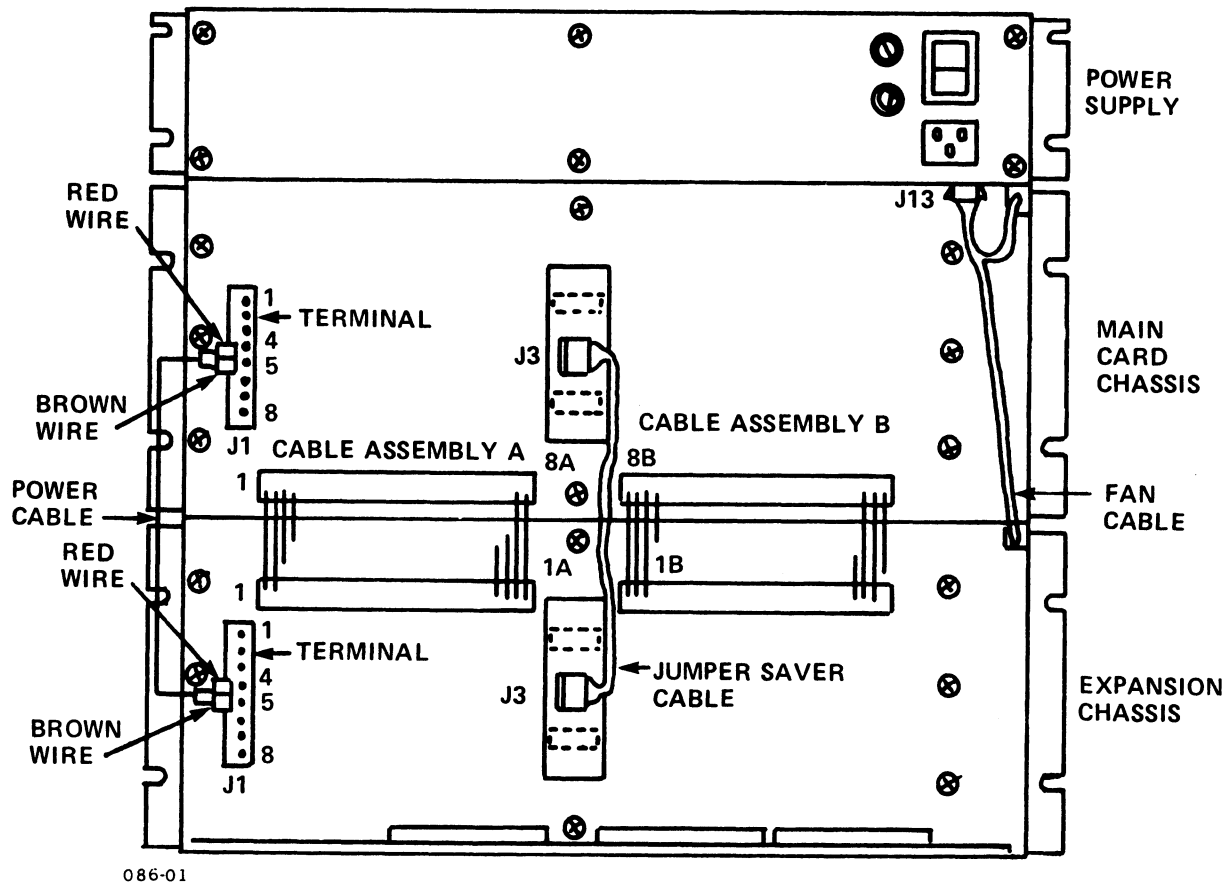

Figure 6-5. Connecting the Main and Expansion Chassis
10. Install the inter-chassis cables as follows (see Figure 6-5):